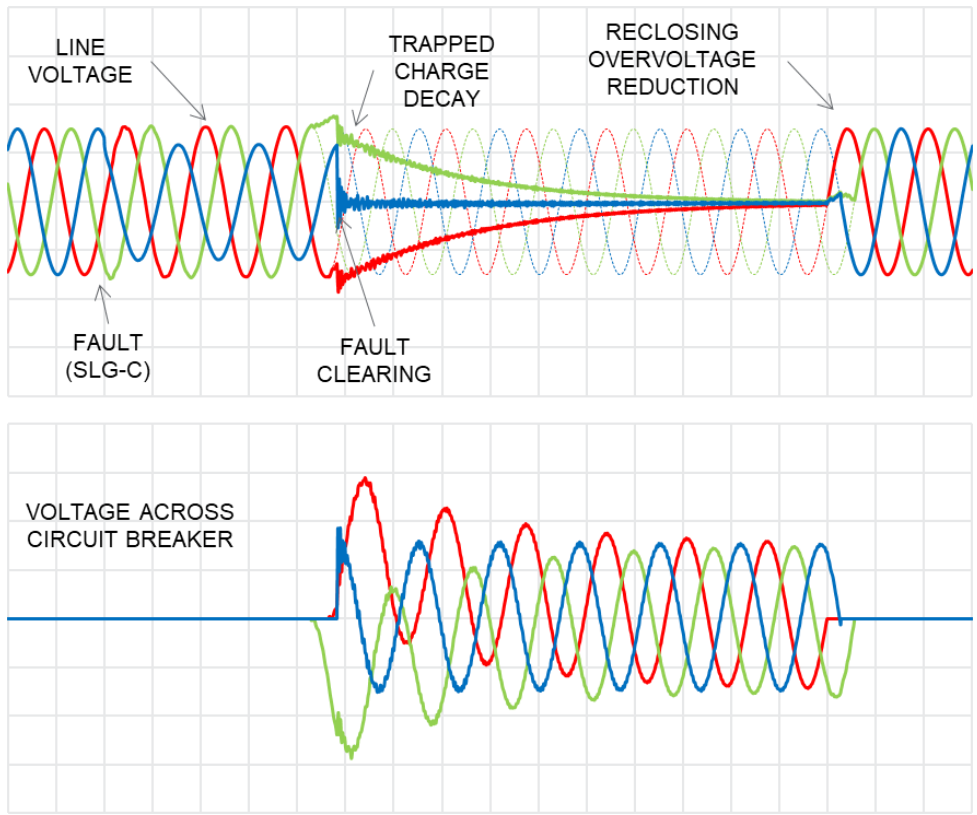

Figure 204: Uncompensated transmission lines fitted with IVT, voltages waveforms (fault on blue phase)
- The line is fitted with Inductive Voltage Transformers (IVT) on each phase (Figure 204).